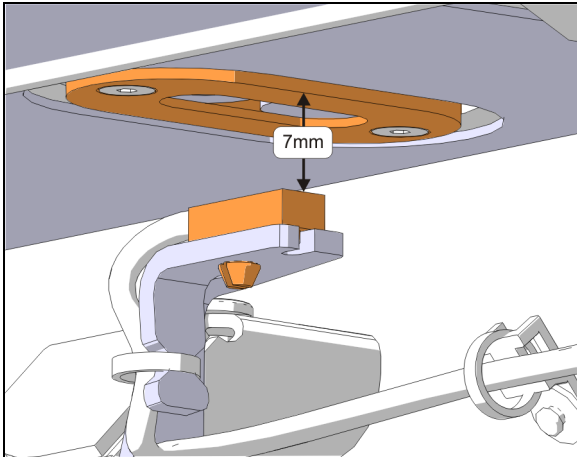

FIGURE 53: SENSOR VERTICAL ADJUSTMENT
- Bring slowly the sensor toward the outside of the vehicle until the LED turns on. When it does, move it 0.079” (2mm) further in the same direction. Adjust vertically to 7mm from magnet support face (Figure 53). Tighten the mounting bracket screws.
does, move it 0.079” (2mm) further in the same direction. Adjust vertically to 7mm from magnet support face (Figure 53). Tighten the mounting bracket screws.